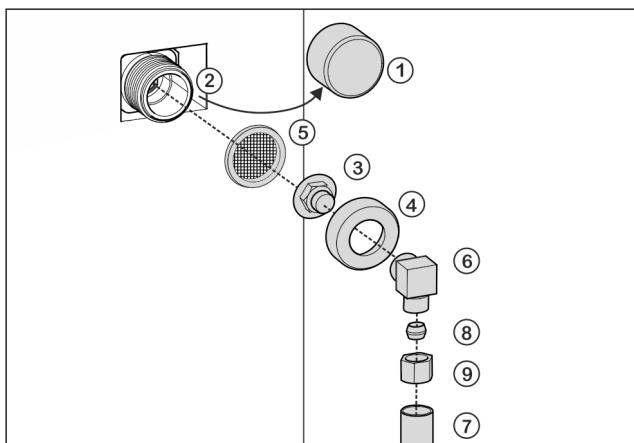

Fig. 24
- ▶ Remove cap Fig. 24 (1) from solenoid valve Fig. 24 (2).
- ▶ Insert coupler Fig. 24 (3) into union nut Fig. 24 (4).
- ▶ Insert the filter Fig. 24 (5) with the recess pointing down towards the coupler Fig. 24 (3).
- ▶ Screw the union nut Fig. 24 (4) by hand onto the thread of the solenoid valve Fig. 24 (2) until it is firmly in place.
- ▶ Screw on angle piece Fig. 24 (6).
- ▶ Connect the water pipe Fig. 24 (7) (e. g. 1/4" OD copper pipe) with the clamp ring Fig. 24 (8) and nut Fig. 24 (9) to the elbow connector Fig. 24 (6).
- ▶ If necessary: Fasten the water pipe Fig. 24 (7) to the housing with the guide clip.
- ▶ Put angle piece Fig. 24 (6) to one side.
- ▶ Connect the water pipe Fig. 24 (7) (e. g. 1/4" OD copper pipe) with the clamp ring Fig. 24 (8) and nut Fig. 24 (9) to the coupler Fig. 24 (3).